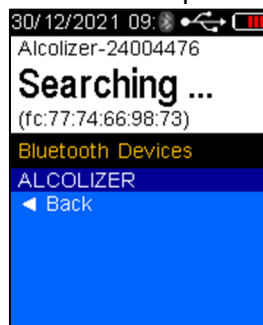

Figure 48 – Bluetooth Devices
- Select the Bluetooth device which HH4 require to be paired (Refer to Figure 48).